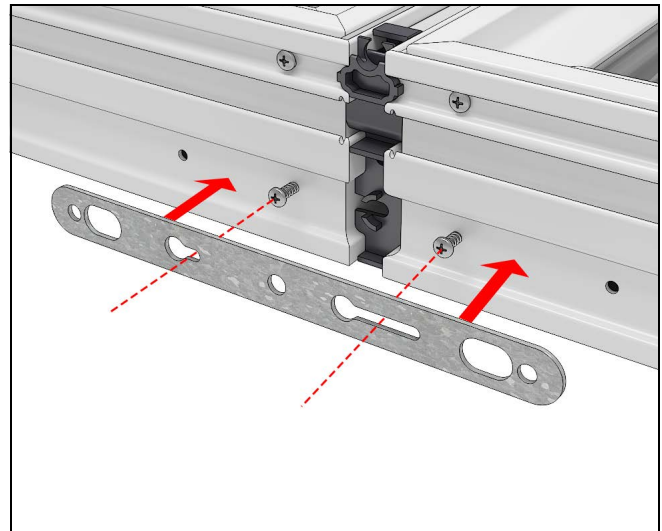
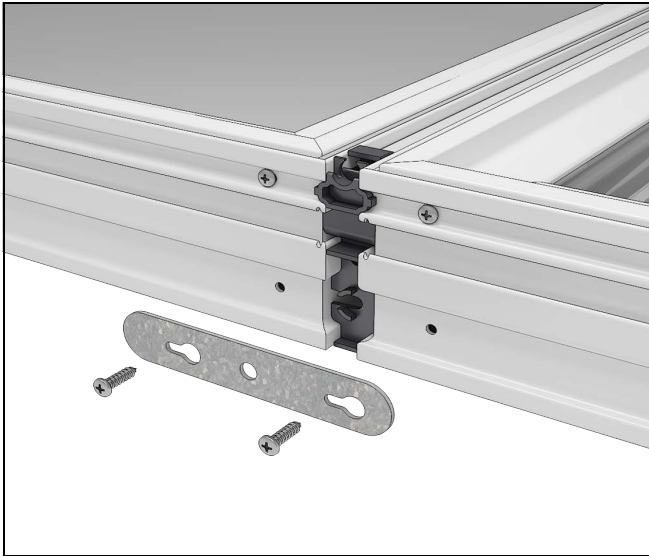

Figure 7
Figure 8
4. Place the brackets as shown. Fasten using screws loosened in previous steps. See Figure 7. Use the smaller bracket for sill mullion joints on sliding window products. See Figure 8.